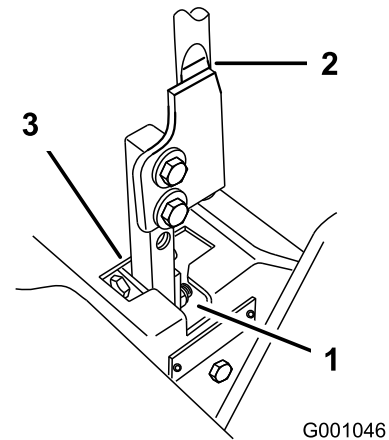

Figure 55
5. Move lever to the neutral position but not locked (Figure 55).
7. Check where the control lever is relative to the notch in the console (Figure 55). It should be centered, allowing the lever to pivot outward to the neutral lock position.